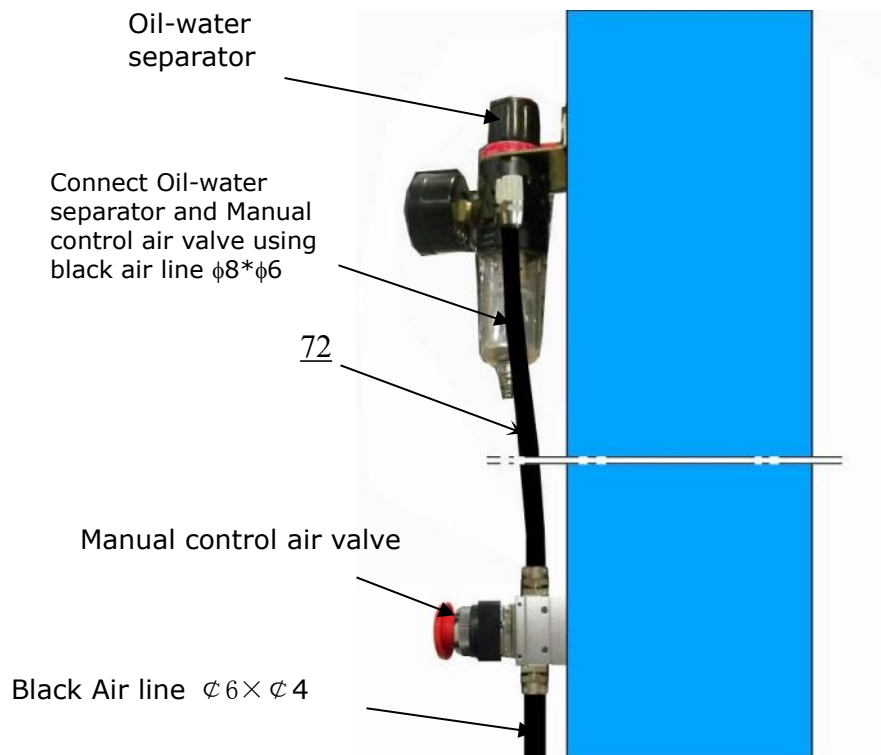

Fig. 45
Note: the actual length of air line can be cut by installer. (See Fig. 44, Fig. 45).
4. Connecting Oil-water separator and manual control air valve with $\phi 8 \times \phi 6$ air line(No.72)(**See Fig. 45**)